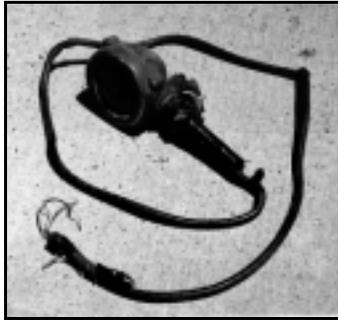

Fig. 2
- Using an infrared light easily found in most motor pools, or ordered through the supply system, (light, infrared NSN 6220-00-984-5180), run WD-1 wire from hot and ground on the rheostat assembly of the TC's domelight. Attach the light to the turret in such a manner that the beam can be directed to the front of the roller or, better yet, be handheld (Figure 2). (Author's note: On the M1A2, the tank fire suppression system is on the same wiring harness as the headlights. We wired the ground directly to the hull, as opposed to using the "A" ground, and had no problems.)